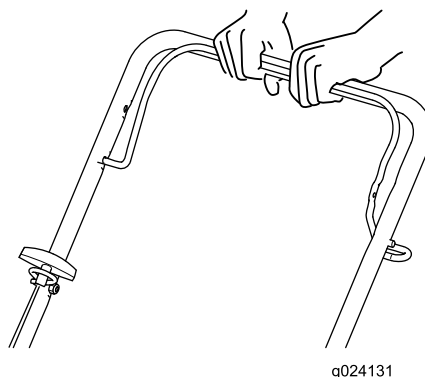

Figure 11
2. Hold the blade-control bar against the upper handle (Figure 11).